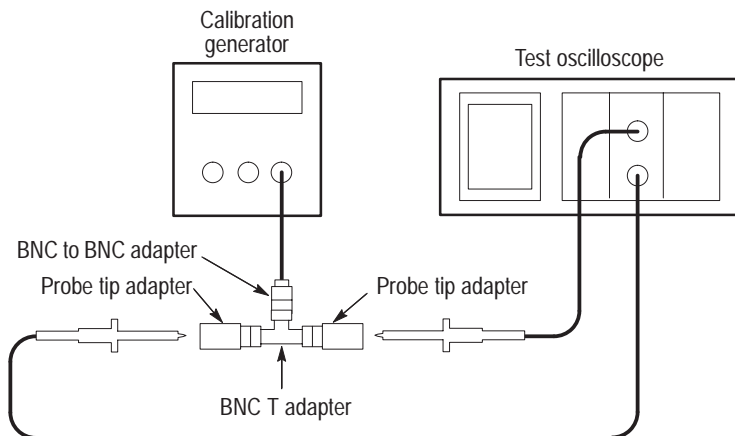

Figure 4–1: Setup for adjustment of DC attenuation
1. Connect the test setup as shown in Figure 4–1.
1. Connect both probe tips as shown in Figure 4–1. Substitute the leveled sine wave generator output for the calibration generator.
The input channel is now vertically calibrated and deskewed (propagation delay balanced) against an internal reference signal. The P6135A probe is calibrated and ready for use in common-mode signal application measurements. See Figure 4–2 for an example CMRR display following calibration.